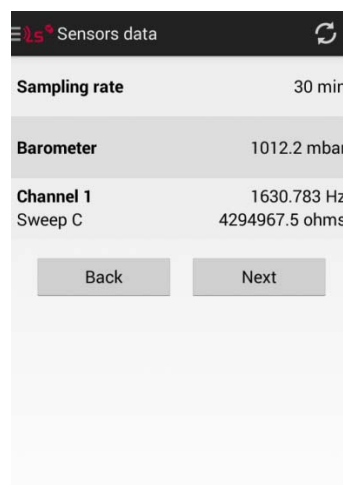

Figure 10: Data readings of active sensors.
- 3) **Sensors data.** A reading of the active channels is displayed (Figure 10). In this stage, the user can see the readings of the sensors in this specific moment, to check if the sensors have been properly configured.